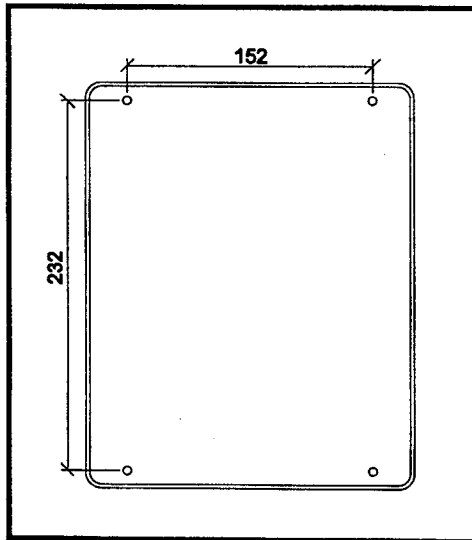
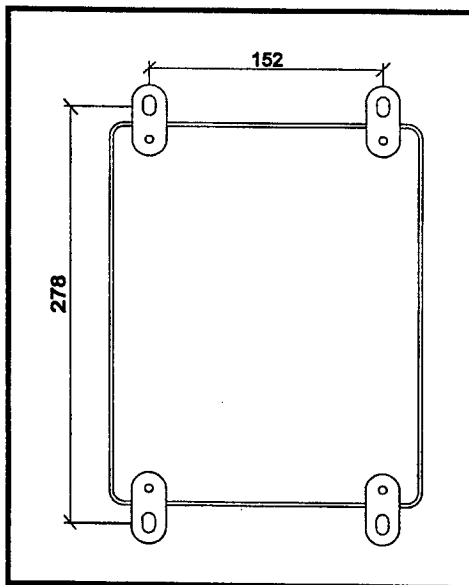

Figure 2-1
Figure 2-2
| Figure 2-1 | Standard Mounting Arrangement | 7 |
| Figure 2-2 | Mounting Arrangement Using Supplied Mounting Kit | 7 |
The Model 100 may be mounted by one of two methods. The mounting arrangement shown in Figure 2-1, is suitable for installations where the attaching screws can be inserted from behind the transmitter. Figure 2-2 shows the arrangement when using the supplied mounting kit. Either of these methods may be used without compromising the IP66 (NEMA 4X) rating of the enclosure.
- (b) Decide upon which of the two mounting arrangements shown opposite, is the most suitable for your particular application. Drill holes in the wall using the dimensions shown in Figure 2-1 or Figure 2-2. The screws supplied in the enclosed mounting kit, (i.e. #10-32 pan head) can be used for the standard mounting arrangement detailed in Figure 2-1, providing the panel thickness does not exceed 3mm. If using the arrangement shown in Figure 2-2, you must supply the necessary hardware to attach the unit to the wall. The slots in the mounting feet supplied can accommodate screws up to 7mm in diameter.